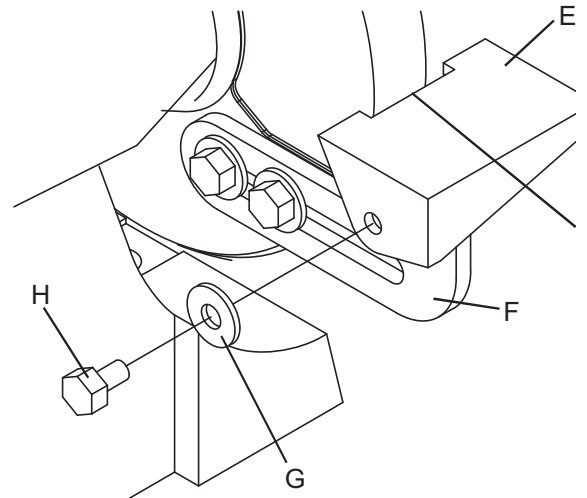

Figure 4 - Assemble Tools Rests to Supports
2. Assemble the Tool Rests (E) to the Supports (F) with the flat washers (G) and hex head screws (H) as shown. See Figure 4.
3. Adjust each Tool Rest until its inside edge (I) is 1/16" from the grinding wheel. Firmly tighten the hex head screws holding the supports. See Figure 4.